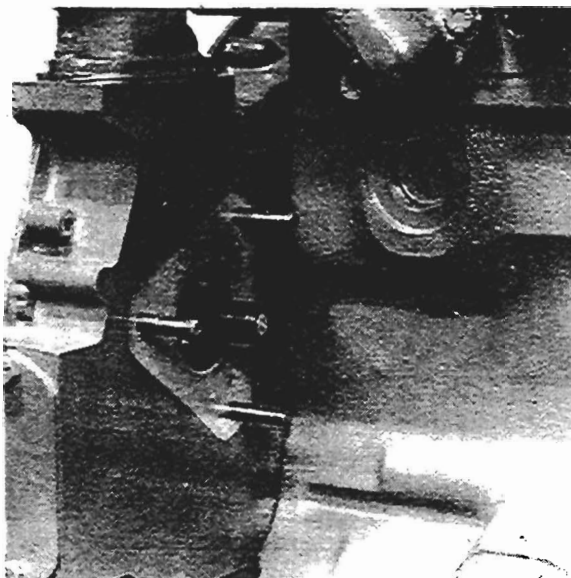

Fig. L6
2. Remove fuel injection pump and fit adaptor PD.67B-1 (see fig. L6) to fuel injection pump gear. Ensure dowel is in correct location between gear and adaptor. The shaft of the adaptor must be toward the rear of the engine.